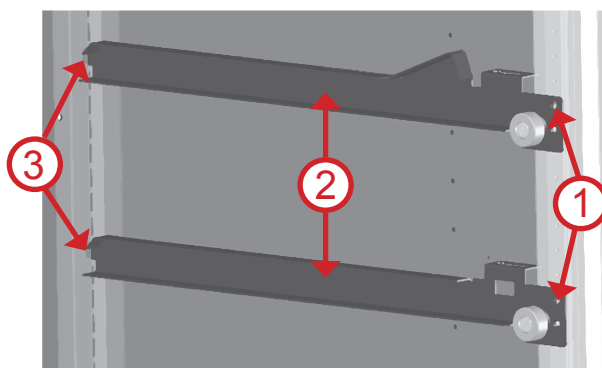

Figure 6.11 - Shelf guide installation
3. Remove a screw (fig. 6.11, pos.1) from a guide that should be moved.
4. Remove the guide (fig. 6.11, pos. 2) from the slot (fig. 6.11, pos. 3).
5. Install the guide to a new position by inserting it into the slot and by fixing the screws (fig. 6.11, pos. 1).